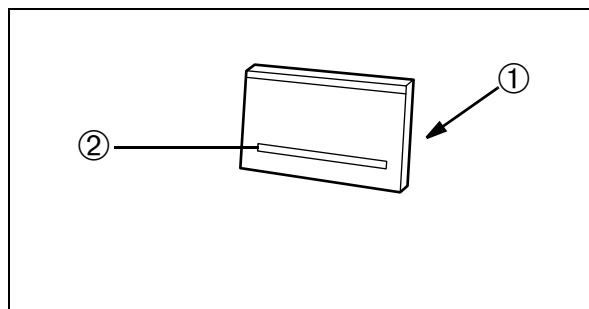

Fig. 84
- Switch the x-ray viewer on or off using the toggle switch ① (Fig. 84) (on the rear of the viewer).
You can place x-ray films on the ledge ② (Fig. 84) and view them leaning against the screen. If necessary, you can fix films under the ledge – after pressing the film lightly against the screen.